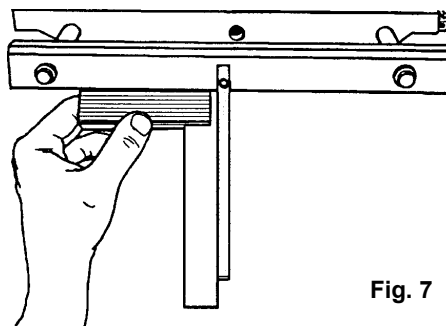

Fig. 7
9. Place a precision square against both the vertical cutter arm (1) and the table extension bar, as seen in Fig. 7.